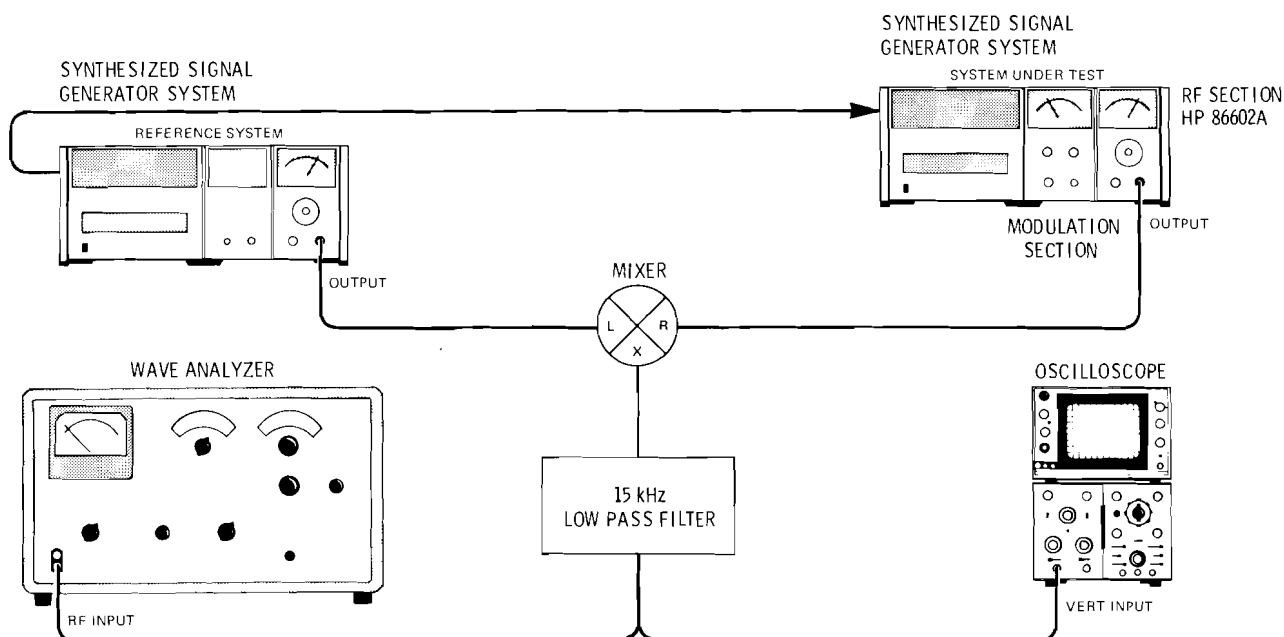

Figure 4-13. Incidental AM Test Setup
1. Interconnect equipment as illustrated in Figure 4-13.